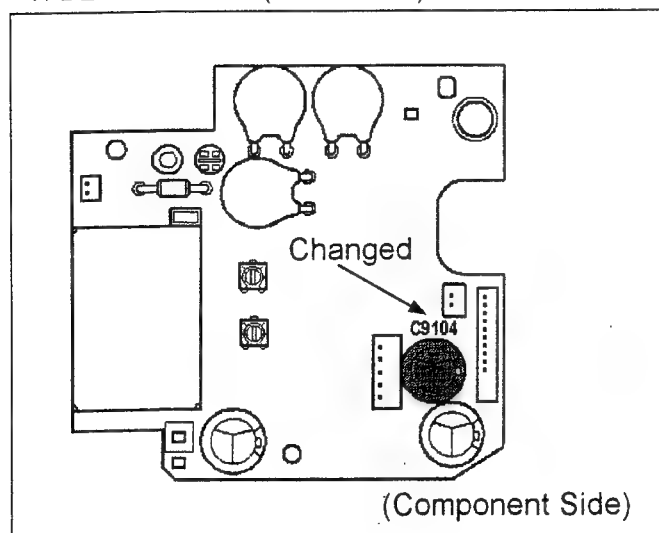

Fig. 6
- 1). Capacitor C9104 is changed from 50V/82 μ F to 63V/68 μ F on the component side as shown in figure 6.